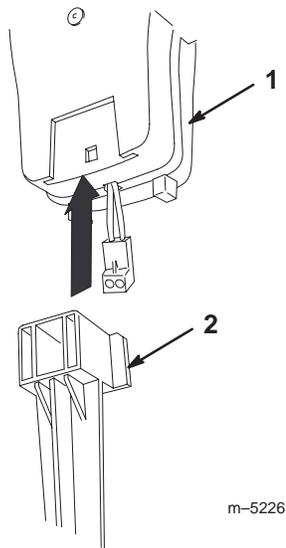

Figure 8
- Mount the switch onto a perimeter mounting stake that you can move from plot to plot (Fig. 8).